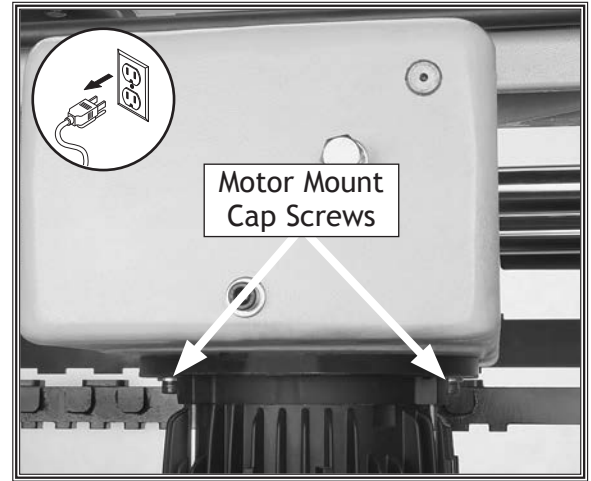

Figure 48. Motor mount cap screw locations.
2. Loosen the two motor mount cap screws shown in **Figure 48**.
4. Loosen the two motor mount cap screws shown in **Figure 48**.